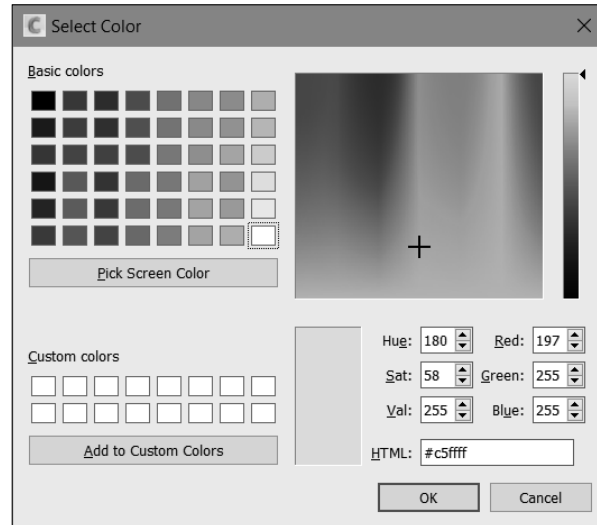

Figure-14. Select Color dialog box
- Click on the **Change** button next to **Color** option to change the color of model. The **Select Color** dialog box will be displayed; refer to Figure-14.